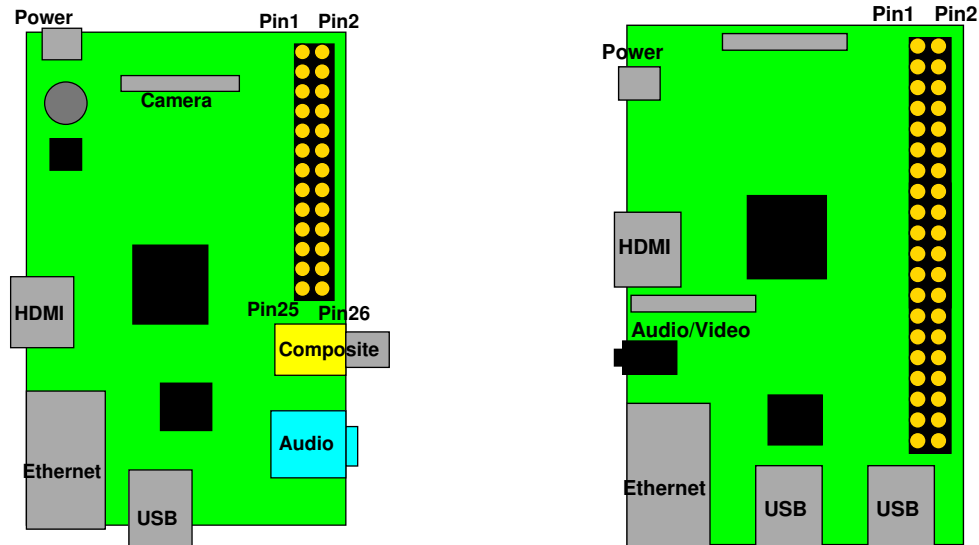

Figure 1: Location of header on Raspberry Pi Model B and B+
2. You will need to hook up the display just as you did in Homework 5. You can use Figure 1 and Table 1 for guidance.